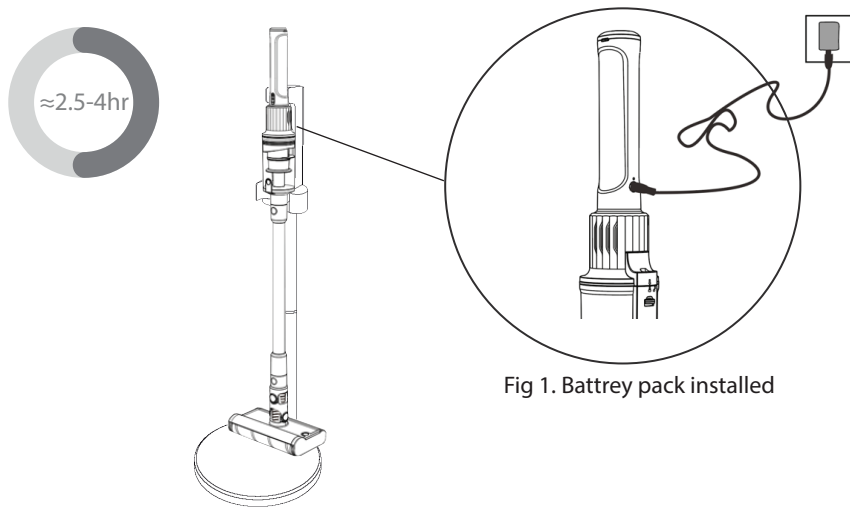

Fig 1. Battery pack installed
1. Your FlexiGlide offers two charging methods; for details, see Figures 1 and 2.